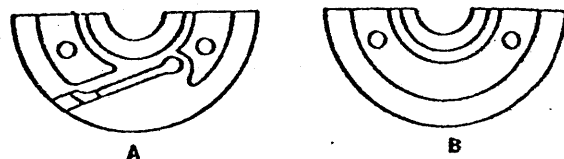
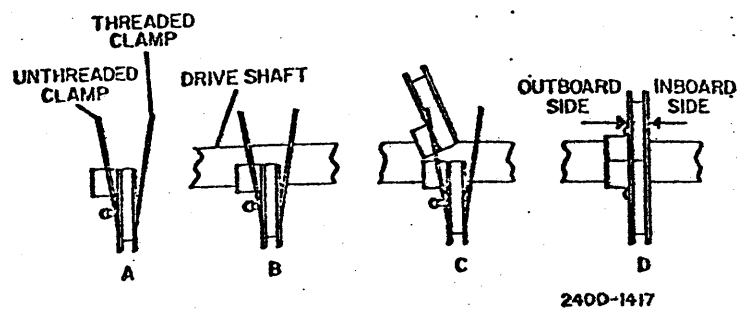
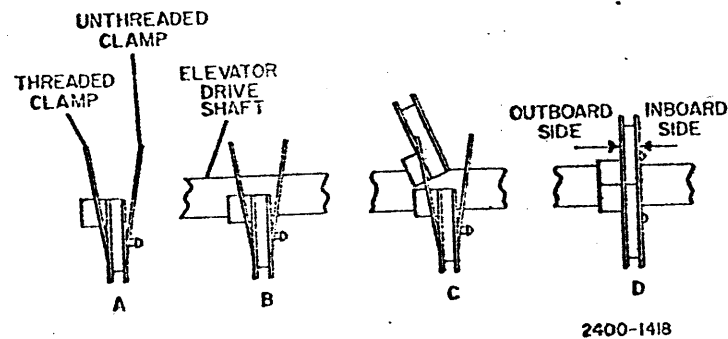

Fig. 3-32A. Divided Pulley, Side View
Fig. 3-32B. Inboard Pulley, Edge View
Fig. 3-32C. Outboard Pulley, Edge View
1. If an inboard pulley is to be replaced, prepare one half (B, Fig. 3-32A) of pulley as shown in A of Fig. 3-32B. Insert screws just enough to connect both clamps and to allow maximum space between clamps. Note that threaded clamp is on the pulley's inboard side and unthreaded clamp is on the pulley's outboard side.
2. If an outboard pulley is to be replaced, prepare one half (B, Fig. 3-32A) of pulley as shown in A of Fig. 3-32C. Insert screws just enough to connect both clamps and to allow maximum space between clamps. Note that threaded clamp is on pulley's outboard side and unthreaded clamp is on pulley's inboard side.
3. Position the half pulley prepared in step 1 or step 2 under the elevator shaft as shown in B of Fig. 3-32B or 3-32C.
4. Position the other half pulley (A, Fig. 3-32A) above the shaft as shown in C of Fig. 3-32C. Insert the collar at a slight angle into the clamp space so that the half pulley will fall into place forming the complete pulley.
6. Squeeze both half pulleys together and tighten ring clamp retaining screws (D, Fig. 3-32B or 3-32C).